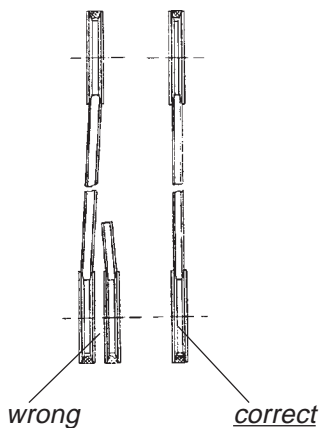

Fig. 6.1
- Adjust the motor so as to make the belt pulleys of motor and machine align perfectly (Fig. 6.1).